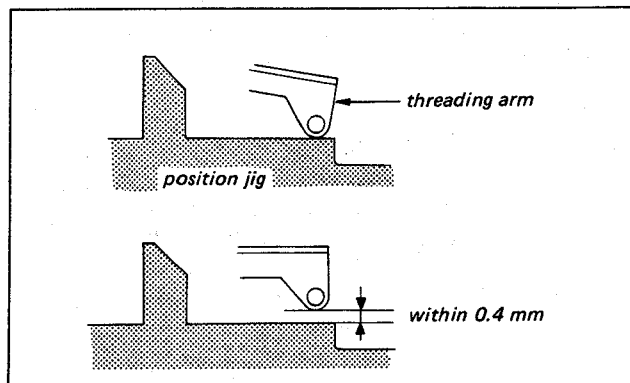

Fig. 4-13. When (B) portion is in contact
Requirement-2 ; When (B) is in contact, Fig. 4-13, (A) should be in contact, or the clearance should be less than 0.4 mm.